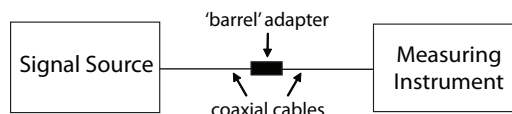

Figure 3 – Setup for Reference Measurements (R)
- 1) REFERENCE MEASUREMENTS **(R)** - With the equipment set up as shown in Figure 3, measure and record the signal level (*in dBμV*) at several frequencies over the frequency range to be calibrated.